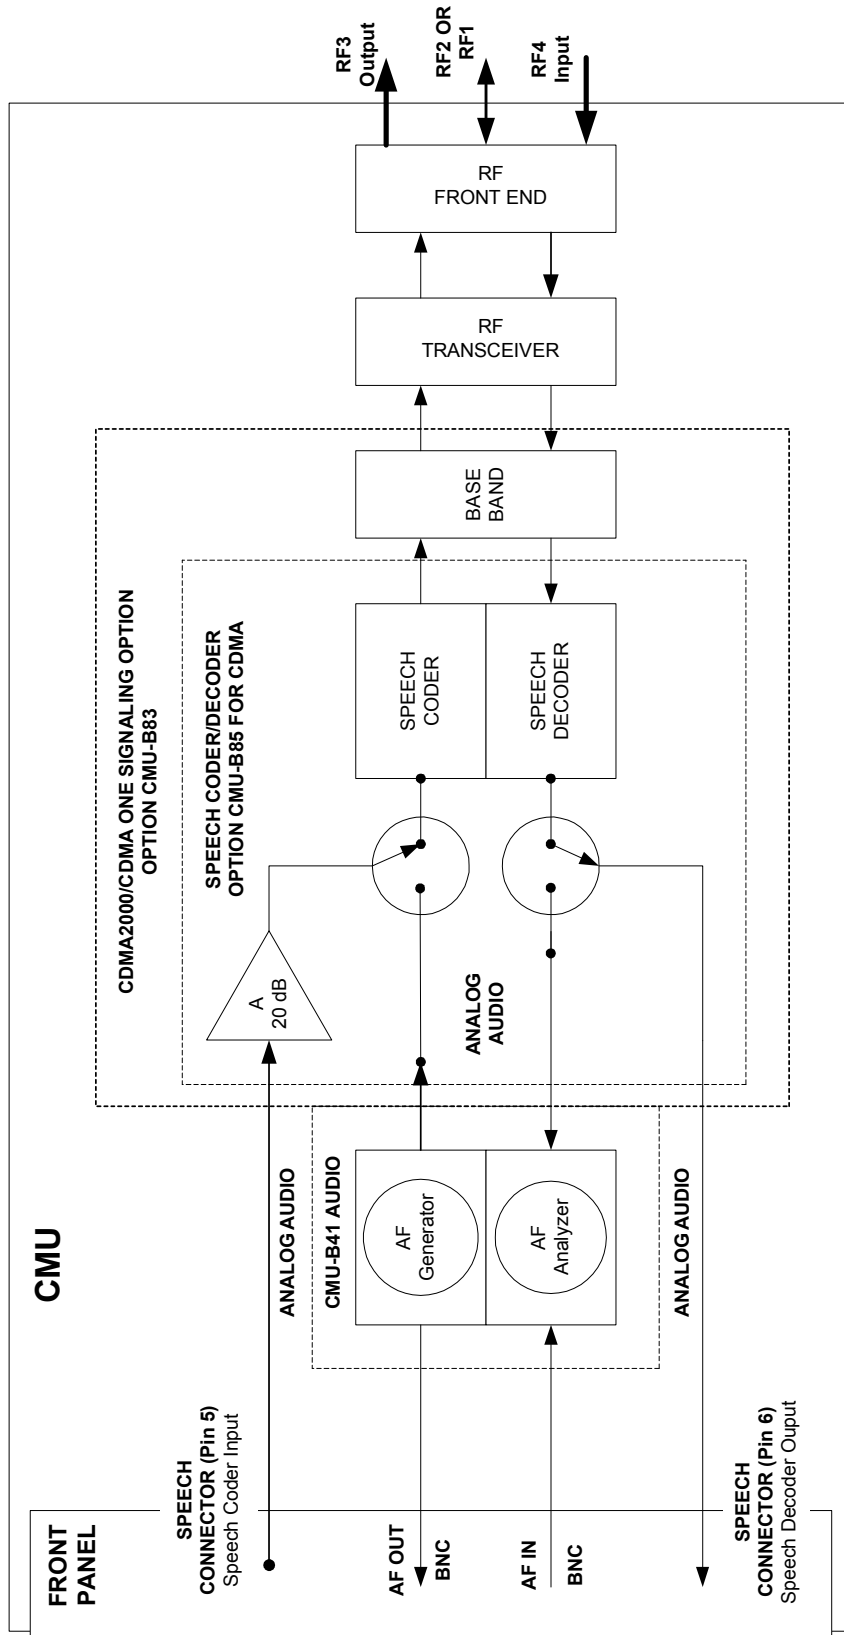

Figure 4-79 Speech Coder Signal Flow
- Figure 4-79 illustrates signal flow through the Speech Coder.